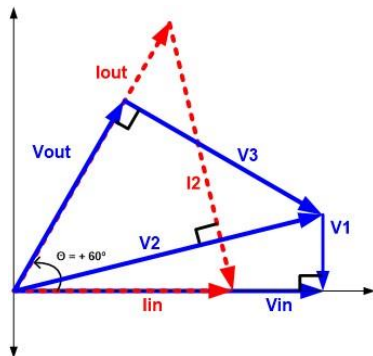
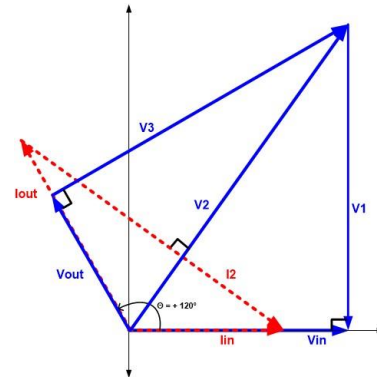

Figure 14: 60° Phase Advance Phasor Diagram
Figure 15: 120° Phase Advance Phasor Diagram
But, this is not the case with V_1 . **Figure 14** shows a 60° advance and **Figure 15** shows a 120° phase advance.
Figures 14 and 15 show I_3 leads V_{in} and the reactive element is now a capacitor. This occurs when $\sin(\Phi - \theta)$ in equation (22) is negative. To determine when this change occurs, a simple condition can be derived. Substituting (19) in the numerator of (22)